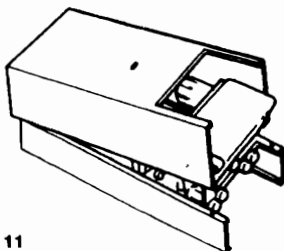

Fig. 11
5.3.2 Slightly lift the casing and slide it gently towards the top of the appliance to disengage the case from the top suspension hooks. (Fig 11)